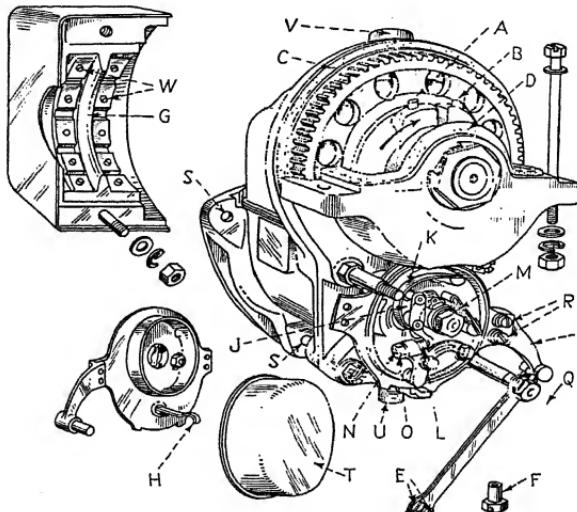

FIG. 46.—Details of Rolls-Royce magneto for use in timing.
*Magneto.*—Each magneto fires one plug in each of the 12 cylinders, as explained, and is marked according to its respective side, namely, "A" for the right hand (A) side of the engine and "B" for the left-hand (B) side. Figure 46 shows the left-hand magneto with its high-tension distributor cover and contact breaker cover removed. The contact breaker housing is also shown separately at the left-hand side to indicate the low-tension connection *H*.